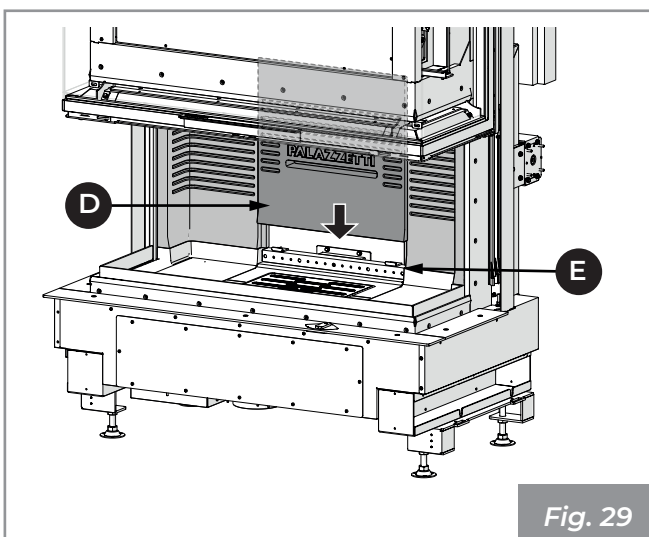

Fig. 29
- 6) Rest the central refractory back panel (**D**) against the wall of the Ecomonoblocco and allow it to gently slide into position, centring it with the protuberances (**E**) in the refractory base (**Fig. 29**).